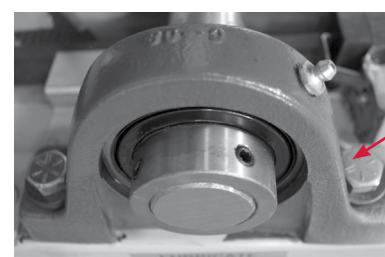

FIGURE 22. Inspect bearing collar to ensure all bolts and screws are tight.
- 3) Inspect the bearing bolts and the Allen screws on the bearing collar to ensure that all are tight (See **FIGURE 22**). Tighten any loose screws and bolts. The bearing bolts should be torqued to 50 ft-lbs. The bearing set screws should be torqued to 15 ft-lbs.